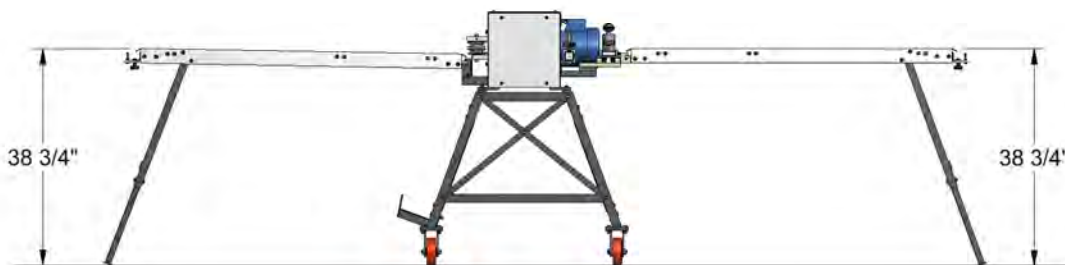

Fig. 4-2. Support Table Height
3. Adjust the legs until the ends of the tables furthest from the machine are $38\frac{3}{4}$ " above the floor, as shown in **Fig. 4-2**. Note: The table on the exit end of the machine will not be level.